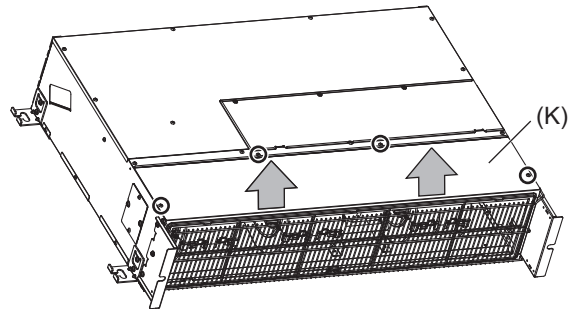

Fig.11
- (1) Push down the tab on the filter, and pull out the filter in the direction of the arrow. (Fig.11)
- (2) Remove the control box cover (A) with procedure [1]-1.
- (3) Remove the front plate (D), (E) with procedure [1]-3.
- (4) Remove the fixing screws on the control box (F) with procedure [1]-3.
- (5) Remove the fixing screws on the front plate (K) to remove it. (Fig. 11)